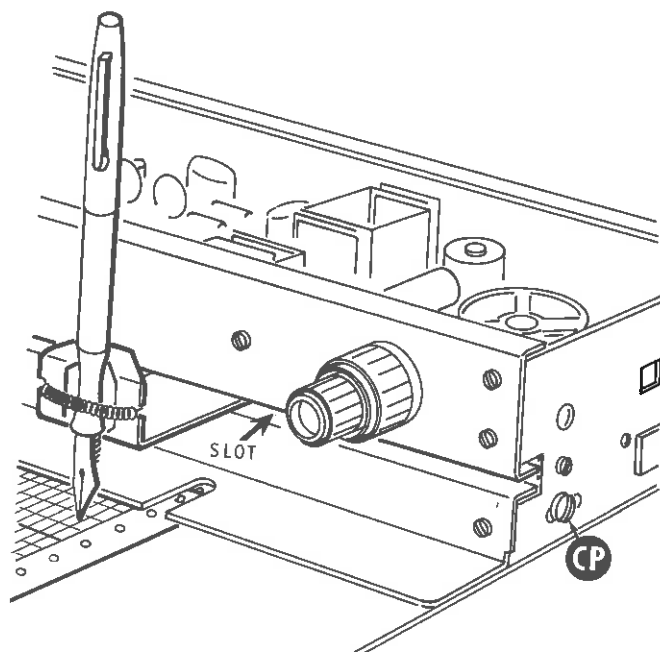

Figure 25
1. Refer to Figure 25 and loosen screw CP in the end of the pen carriage shaft.